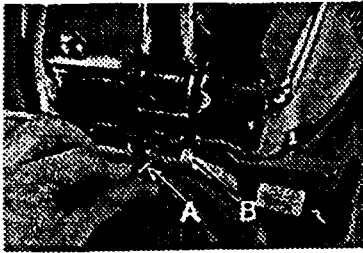

Fig. 11
Slide top of bag out of open end of clamp (Fig. 10). It is not necessary to remove clamp from handle. Remove bag from cleaner by pulling back lever arm (A) on bag collar (Fig. 11).
Place tab on bottom of bag collar into slot on cleaner base (Fig. 13). Push collar forward so locator pin (B) fits into slot and push lever arm (A) forward to lock bag in place (Fig. 11). Slide top of bag back into clamp (Fig. 10).